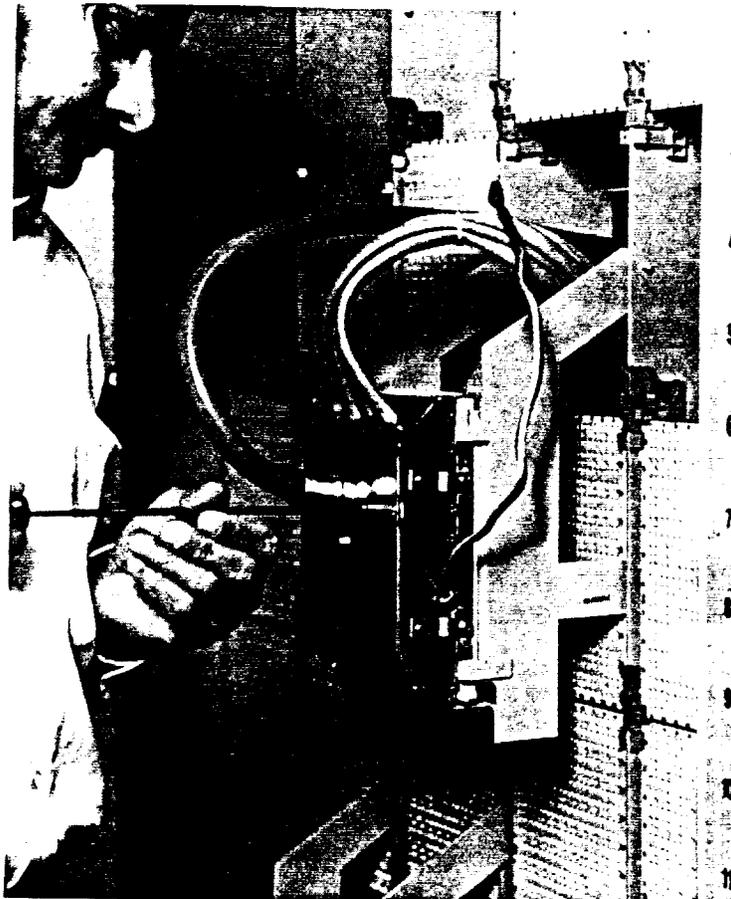

Figure 31. Remove Top Plate
- 8.11 Remove the casing by removing the top plate and the four screws on the side of the panel (Figures 31, 32, and 33). Rotate the back top plate and expose the back panel wires.